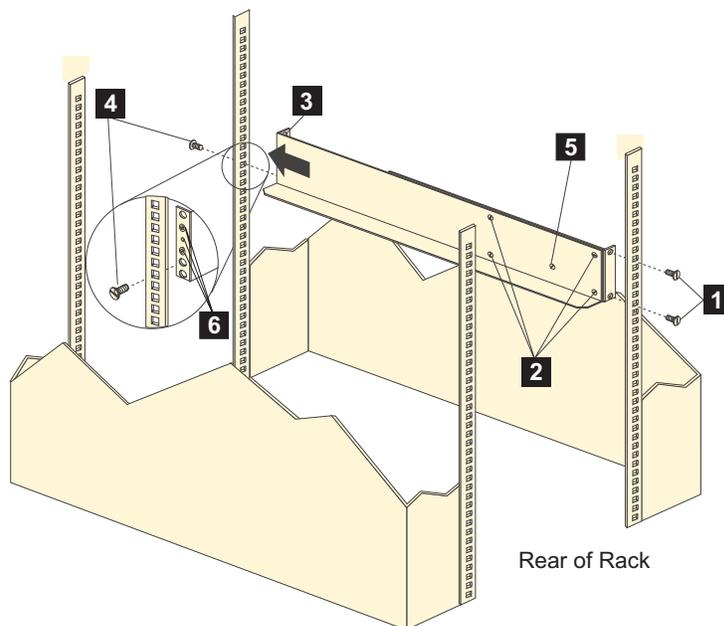

Figure 12. Installing the support rails
Note: Refer to Figure 12 on page 36 while performing these steps.
Note: The support rails are not marked as Left or Right. However, each rail can be correctly mounted on only one side of the rack cabinet. The rails should be mounted with the alignment pins at the front of the rack. Figure 12 shows the installation of the left support rail.
- d. From the back of the rack, insert the two 6/32 in. screws (**5** in Figure 12 on page 36), one on each side, in the holes on the side of the unit. Tighten the screws.